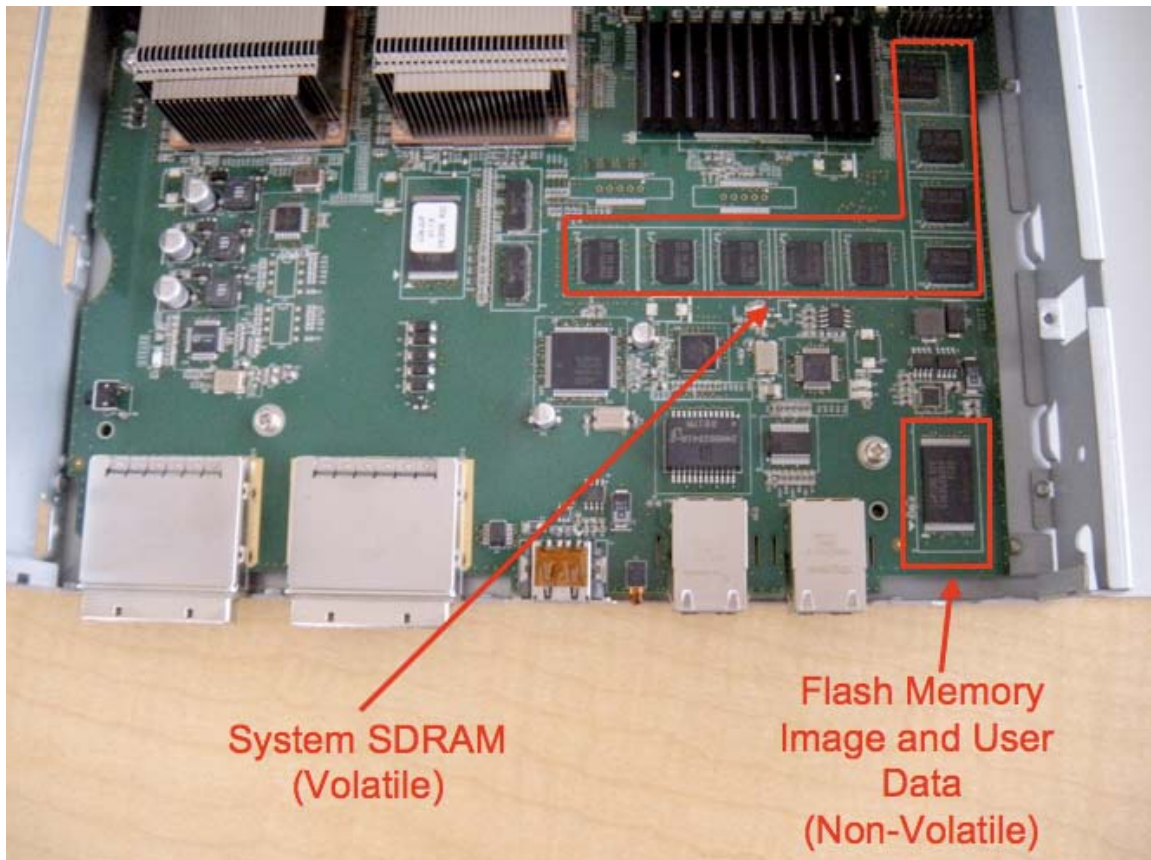

Figure 3-7: Locate NV storage (Flash)
8. Locate NV storage (figure 3-7)